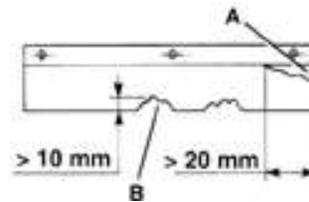
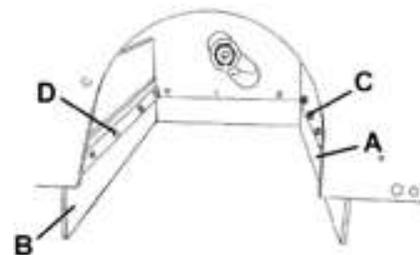

Figure 12
Figure 17
- 1) Unscrew the knobs (17 and 34) and remove both left (16) and right covers (33).
- 2) Check the side skirts (11 and 12) for integrity. Replace the skirts when they have cuts (A, fig. 12) larger than 0.79 in (20 mm) or cracks (B) larger than 0.39 in (10 mm) (for skirt replacement).
- 2) Check the front (13) and rear skirts (14) for integrity. Replace the skirts when they have cuts (A, fig. 12) larger than 0.79 in (20 mm) or cracks (B) larger than 0.39 in (10 mm) (for skirt replacement).
- The front skirt (A, fig. 17) slightly touches the floor (A, Fig. 14).
- The distance from the ground of the rear skirt (B, fig. 17) is within 0-0.12 in 0-3 mm (A, fig. 12).
- 4) If necessary, adjust the skirt height by using the slots on the screws (C and D, fig. 17).